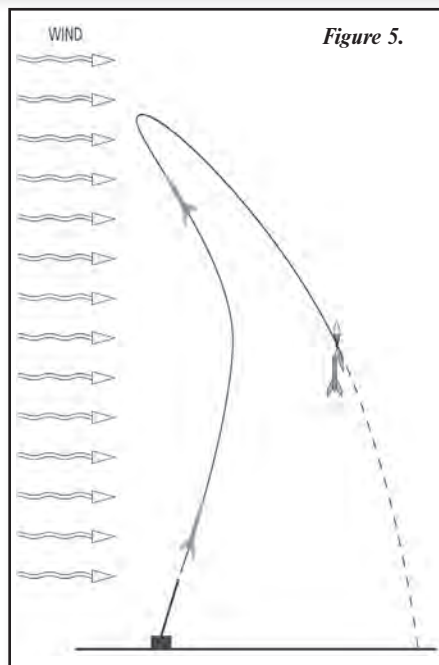

Figure 5.
3. **Flying in Excessive Wind**—Flying your model rocket in winds above 15 miles per hour can cause it to fly far off course. Weathercocking can cause your rocket to turn and head into the direction of the wind. Figure 5 shows how wind can push on a rocket, much as it does on a weathervane, so as to turn the nose into the wind, just as it turns the arrow of the weathervane. If the launch rod is not set at the correct angle for the prevailing wind and for your rocket, weathercocking can cause the rocket to pitch over and fly a long way—into the wind. Fortunately, the same wind can grab your rocket's deployed parachute and return it downwind to you. The trick is to set the launch angle correctly. This can be done by